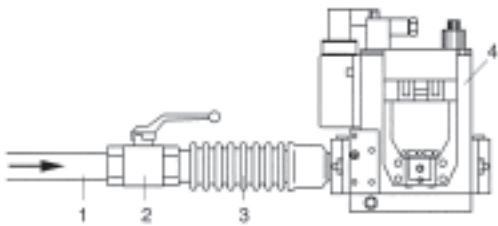

Fig. 3
The gas supply hose connection must be of suitable size and adequate for the type of system to be set up and must be effected by arranging the "gas ramp" as shown in Fig. 3: the gas pipe (1), the cut-off valve (2) and the antivibration coupling (3) are not supplied with the heater and so must be provided by the installer connecting them to the al gas valve group (4) supplied with the space heater.
- Connect a gauge to the upstream pressure intake (4) of the valve group (Fig. 3);
- For categories I2H, I2ELL and I2L only, read the working pressure off the 2nd gauge and if necessary use a screwdriver to adjust the pressure regulator (1) to restore the working pressure shown in Tab. I.